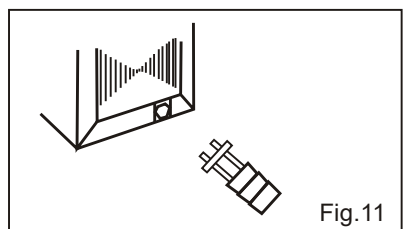
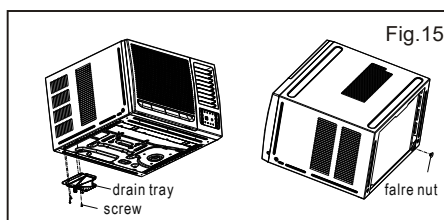

Fig.11
Fig.15
7. Install the drain tube connection into the hole provided at the rear of the air conditioner chassis. (Fig.11) To meet different requirements of different types of air conditioner, there are two methods of choice to treat the condensed water: Bottom drainage or back drainage. For bottom drainage, the drain tray is fixed in position through four pcs of screws and use the flare nut to block the back drainage hole. (Fig.15) For Back drainage, use the flare nut to block the bottom drainage hole and use the water outlet pipe to connect the back drainage hole. Increase the sealing ring to prevent water leakage. (Fig.16)